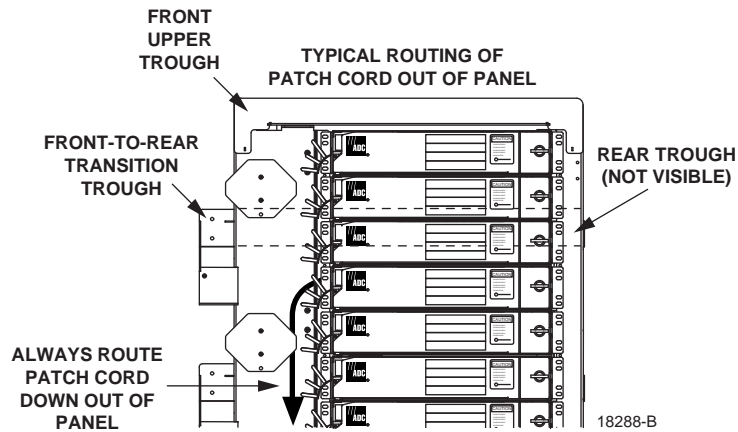

Figure 65. Routing Patch Cords Out of MicroVAM Chassis - Front Entry
6. Route the patch cord out and down from the chassis as shown in Figure 65.